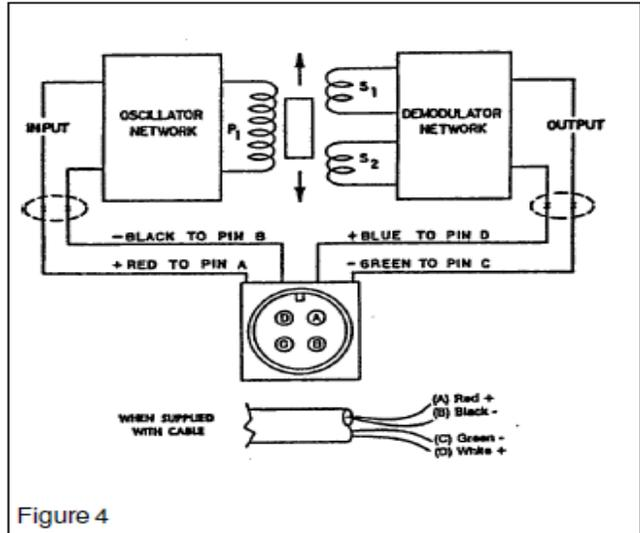

Figure 4
The electrical system consists of a Linear Variable Differential Transformer (LVDT) which converts the mechanical deflection of the Load Plate into a useful electrical output signal. (See Figure 4.) The movable core of the LVDT is mechanically coupled to the Load Plate by means of the Core Adjust Assembly. (See Figure 4.) This adjustment is factory set and is not accessible.
As illustrated in Figure 4, a DC LVDT consists of the following components:
3. Observing correct polarity, connect the positive (+) input lead to Pin A and the negative (-) input lead to Pin B. (See Figure 4)
4. Connect the positive (+) output lead to Pin D and the negative (-) output lead to Pin C. (See Figure 4)
2. Connect a voltmeter to Pins C and D (See Figure 4)
To check, turn off power and disconnect the input and output leads. Check coil continuity and resistance. (Refer to Figure 4)